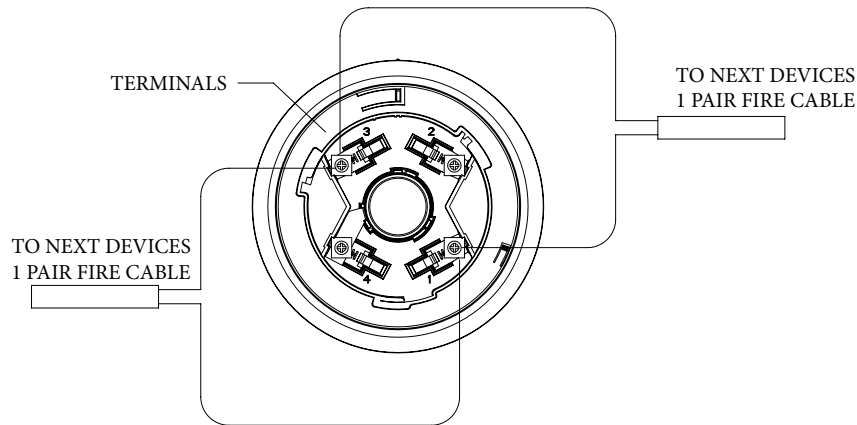

Fig .2
- 1. WIRING:** See Fig. 2 The Addressable Sounder Beacon Base is subject to a two-wire non-polarity connections. Terminal 1 and 3 are respectively connected with the terminals L1 and L2 of the loop bus of a compatible fire alarm control panel. Terminal 2 and 4 are respectively connected with the terminals 2 and 4 of IQ331H (Heat Detector) or IQ331S (Smoke Detector).